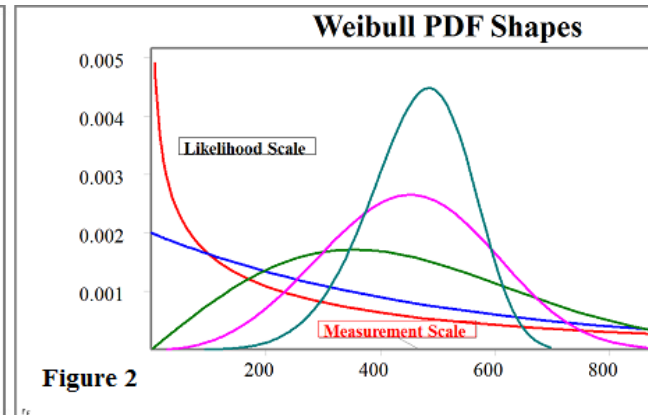

Figure 2
**The 2-parameter Weibull:** The Weibull distribution works well in modeling lifetime data and most manufacturing data. The Weibull probability density function (PDF) can take many shapes (Figure 2 above) and can fit to non-symmetrical measurements. Also, the simple 1-parameter and 2-parameter versions of the Weibull distribution will not produce a negative value. That is a nice feature for life data analysis and for many actual measurements that cannot be negative. The 2-parameter standard version of Weibull is even simpler than the 2-parameter normal. **The math is straightforward for the cumulative Weibull**, but the cumulative normal requires higher-math integral approximations . . . UGH!